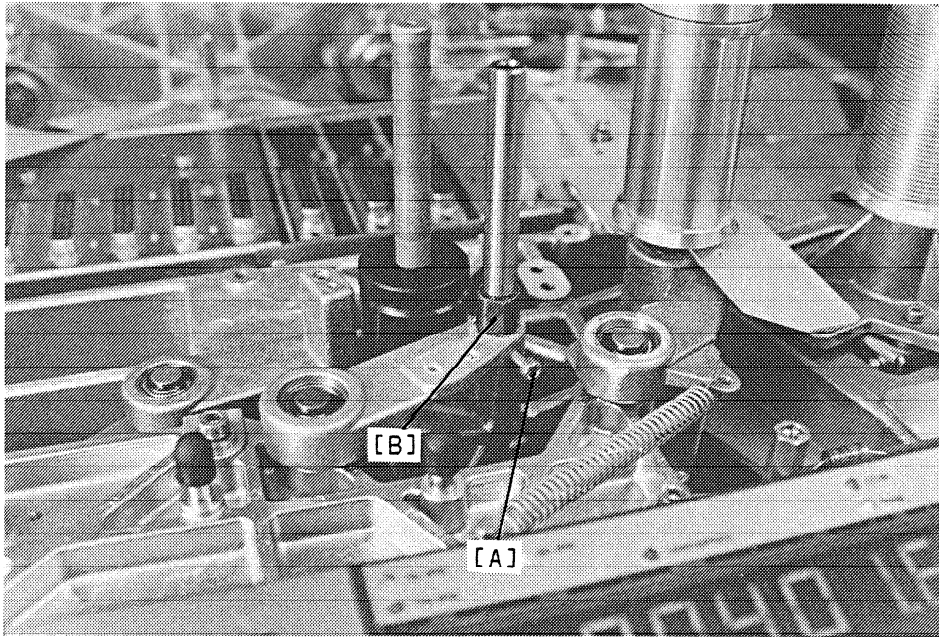

Fig. 17
- Loosen the set screw A of the pinch roller shaft (use round-head hex screw-driver no. 2.5). See Fig. 17.